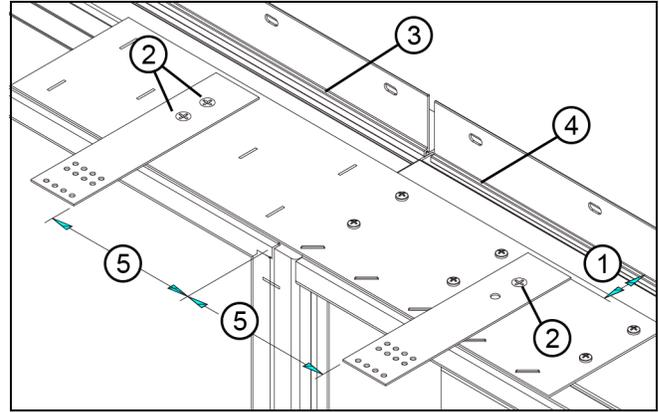
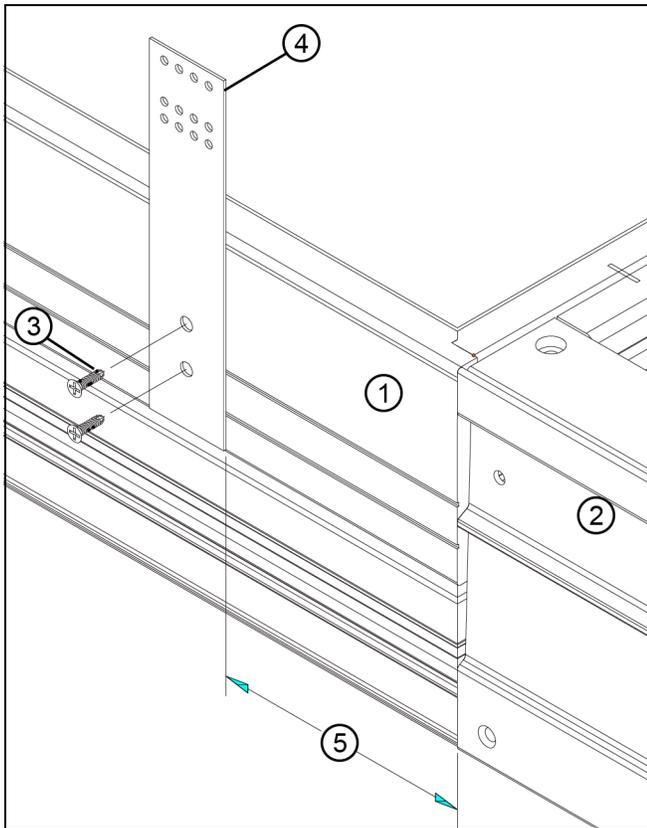

Figure 15 Head jamb detail
Figure 16 Sill detail
head jamb mullion and on the polygon side of the sill mullion. Measure and mark 1 1/4" (32) from nailing fin extended on head jamb of inswing door. Attach bracket with one #7 x 5/8" Phillips flat head wood screw. Attach structural bracket to sill and head jamb of polygon with two #7 x 5/8" wood screws. See Figure 15 and Figure 16.